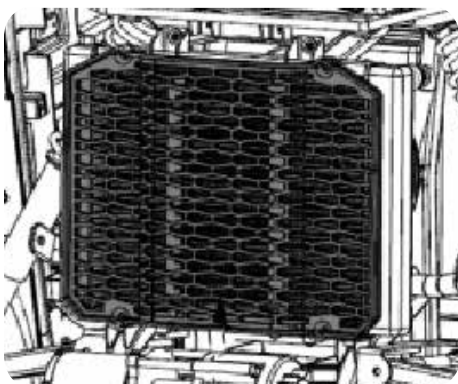

Figure 5-13
3. Detach the screen and clean the radiator and radiator screen and radiator fins of all debris. See Figure 5-13.